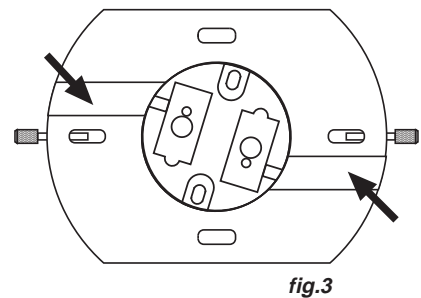

fig.3
5. **(fig.3)** Tighten the screws again, making certain that the lamp wires are positioned in the appropriate slots.